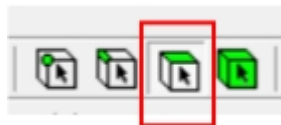

Figure 13: Face button
16. Now, assign names to all the faces of the domain. This step involves selecting and generating a face, followed by naming the face. To select the face, click on the **Select Face** button in the top ribbon of buttons (the location is shown in Figure 13). If this button is greyed-out, click on **Modeling** in the bottom of the Sketching Toolbox panel.
- (d) Click on the **Edge** selection button in the top ribbon of buttons. This button is to the left of the **Face** button in Figure 13.